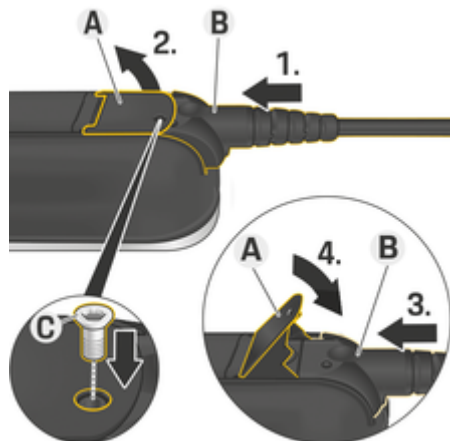

Fig. 38 Connecting cables and securing plugs
✓ Lever **A** (Fig. 38) is closed.
1. Insert plug **B** (Fig. 38) into the control unit until you first feel resistance.
2. Lift lever **A** (Fig. 38).
3. Push plug **B** (Fig. 38) in fully.
4. Close lever **A** (Fig. 38).
5. Secure plug **B** (Fig. 38) to the control unit using screw **C** (Fig. 38).